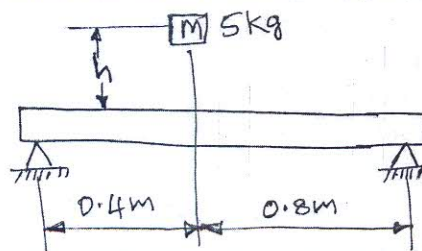

Fig.Q3(b)
- b. A 5kg block is dropped from a height of 200mm on to a beam as shown in Fig.Q3(b). The material has an allowable stress of 50MPa. Determine the dimensions of the rectangular cross section whose depth is 1.5 times the width. Take $E = 70 \text{ GPa}$.